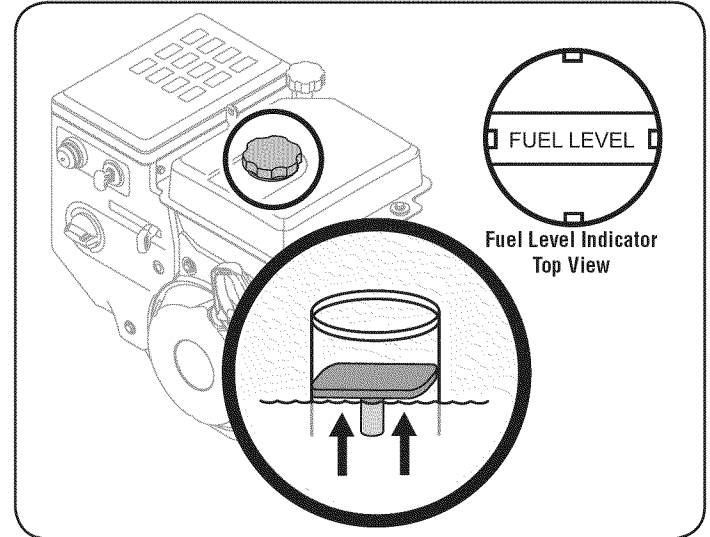

Figure 8
2. A fuel level indicator is located in the fuel tank. Fill tank until fuel reaches the fuel level indicator, Figure 8. Be careful not to overfill.